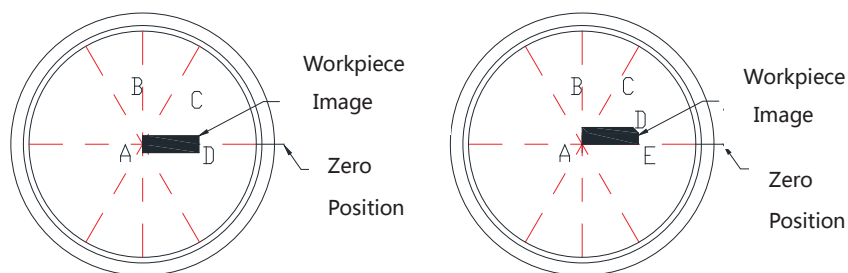

Fig 8 Single Coordinate Measured Fig 9 Double Coordinate Measured
6.2.1.3 To adjust the direction of the workpiece to be measured in parallel with the measuring axis, as shown in Figure 8, the BC edge is parallel to the X axis.